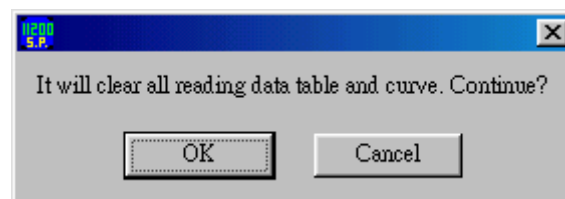

Figure 4-8 Warning Message for Cleaning the Old Readings
- Test Parameter: It switches the IR /LC test mode. It will switch to correct comparator contents and reading types automatically and prompt a warning message to clear the old readings when changing the test mode as Figure 4-8 shows.